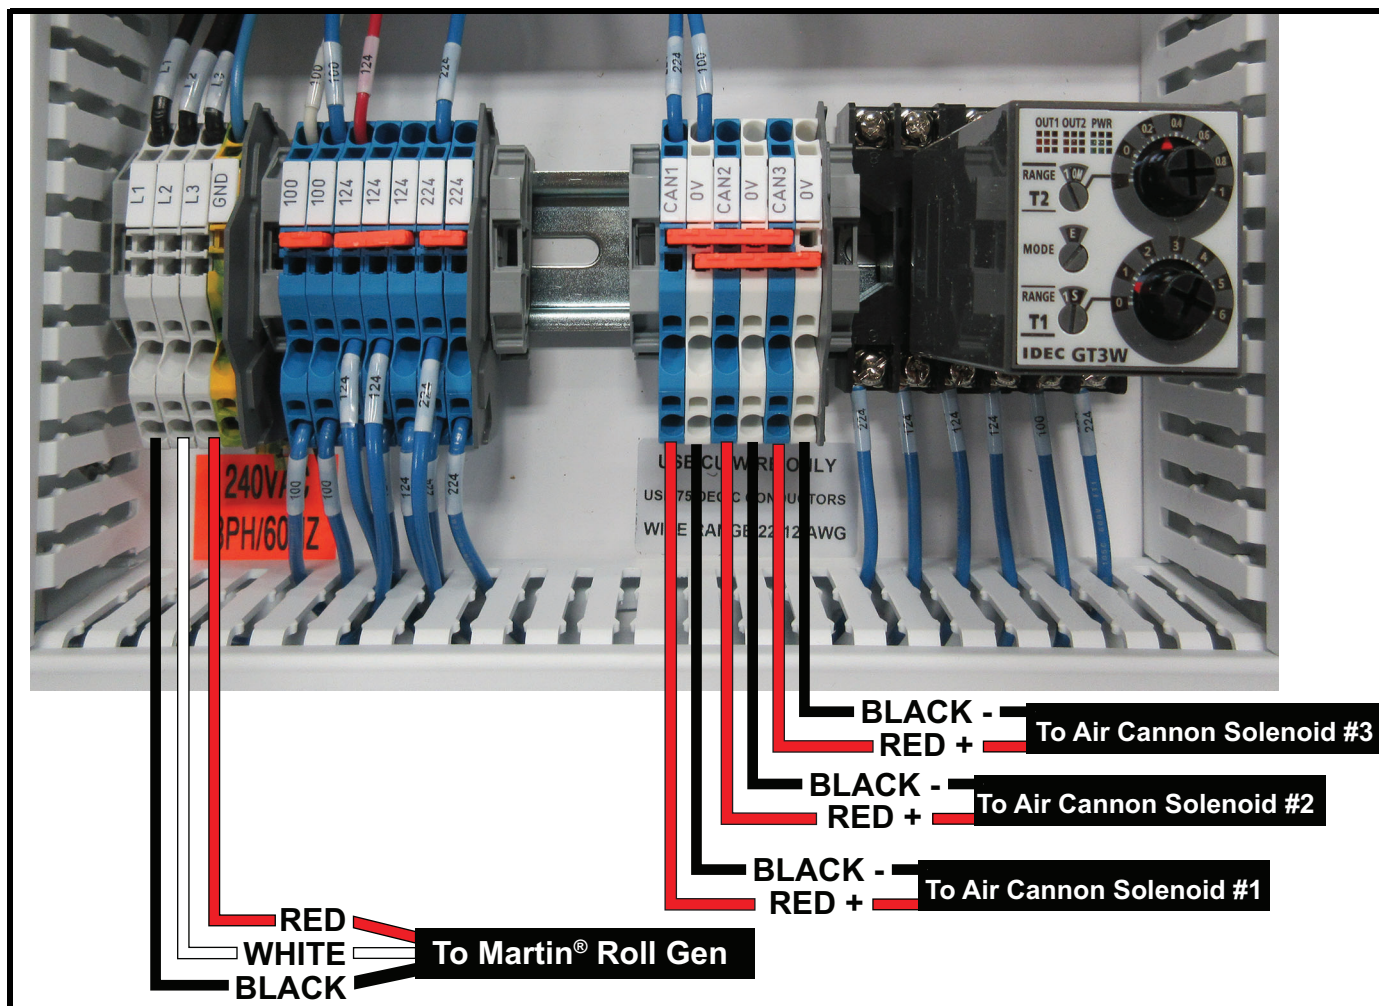

Figure 3. Martin® Roll Gen™ Air Cannon Power Supply and Control Cabinet Layout
1. Connect wires from roll generator to terminal block (see Figure 3):
3. Connect wires from solenoid to terminal block (see Figure 3):